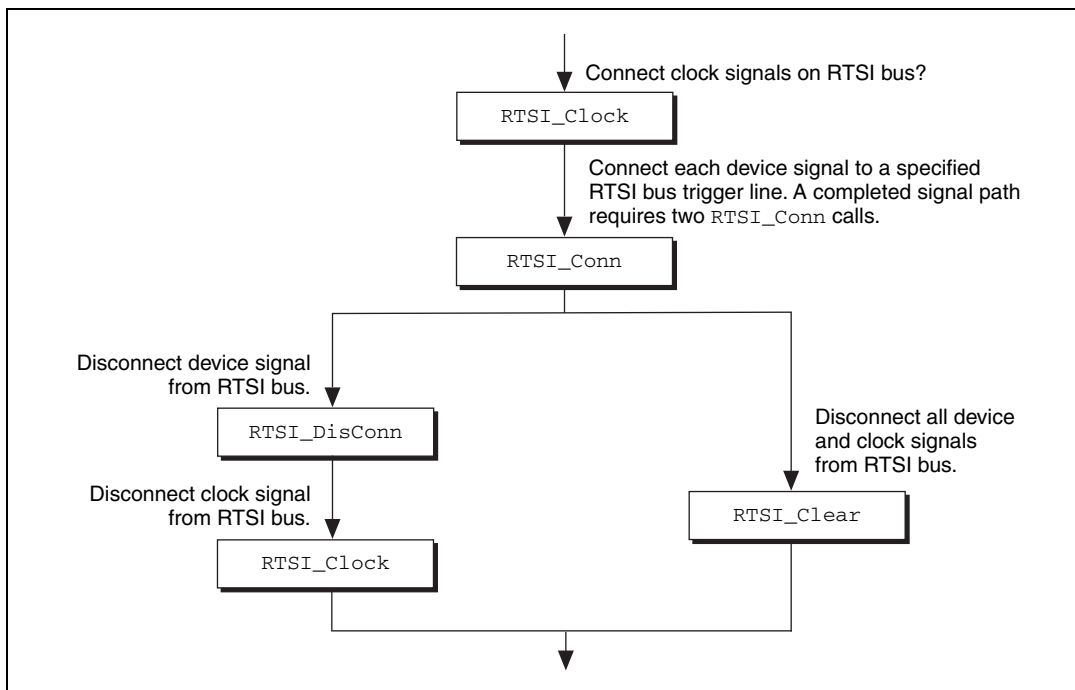

Figure 3-29. Basic RTSI Application Calls
3. Disconnect the signals from the RTSI bus. Figure 3-29 illustrates the normal order of RTSI function calls.